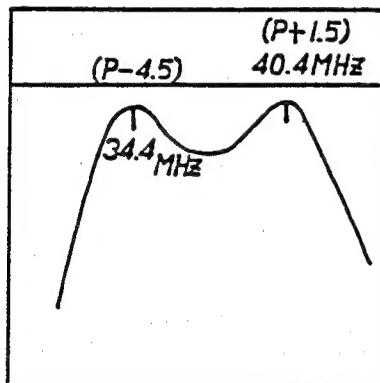

Fig. 3
5. Adjust L204 so that the sound trap is approx. P+1.5. (As shown in Fig.3)
6. Adjust L202 so that the sound trap is just like Fig.3.